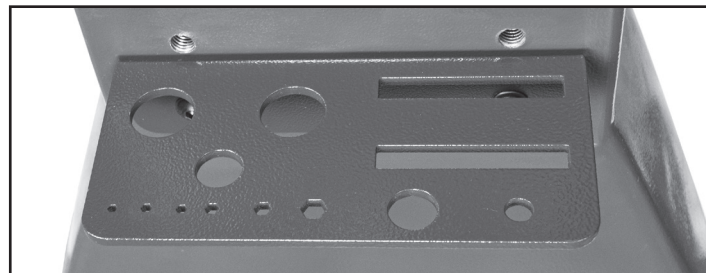

FIG. 11
Install the Tool Holder (U) onto the outside of the right leg with the two hex head screws and washers provided. Use the 5mm hex wrench provided. FIG. 11.